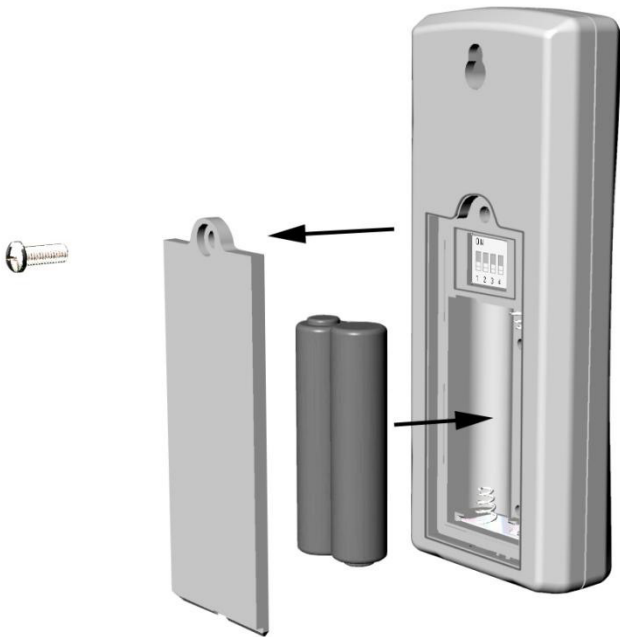

Figure 7
3.3.2 Insert batteries into the FT016TH thermo-hygrometer transmitter. Remove the battery door on the back of the sensor by removing the set screw, as shown in Figure 7. Your device may be more square than the illustration shown.